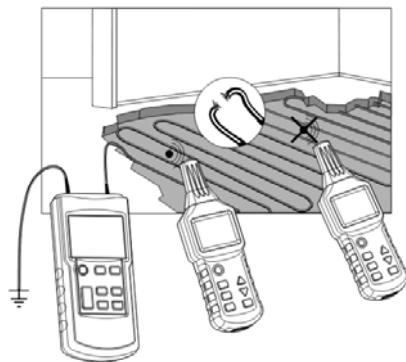

Fig. 13a
- All unused lines must be earthed as shown in Fig. 13a.
For an application with only one transmitter, refer to Fig. 13a.